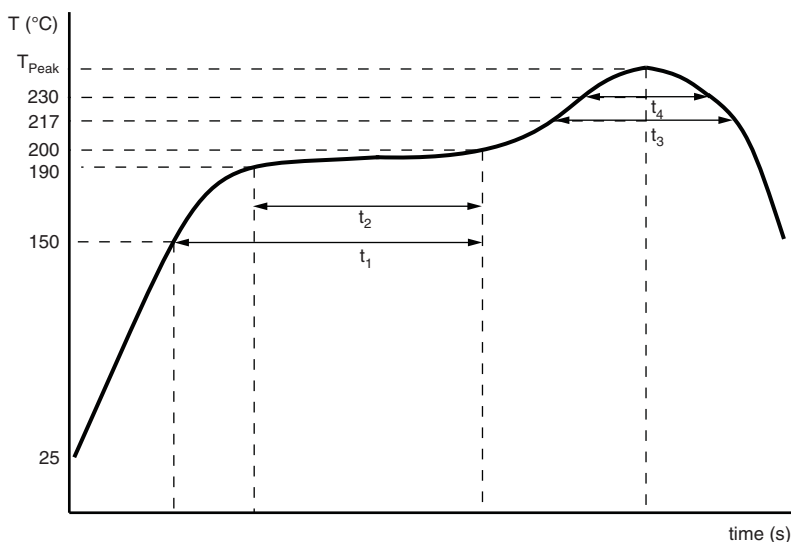

Fig. 5 - Maximum temperature load during reflow soldering
For maximum conditions refer to Fig. 4 or Fig. 5.
- (2) Advanced reflow soldering profile, according to JEDEC J-STD-020, see Fig. 5 and Table 5
- (3) Determines the applicable row in the table "Endurance Test Duration and Useful Life"